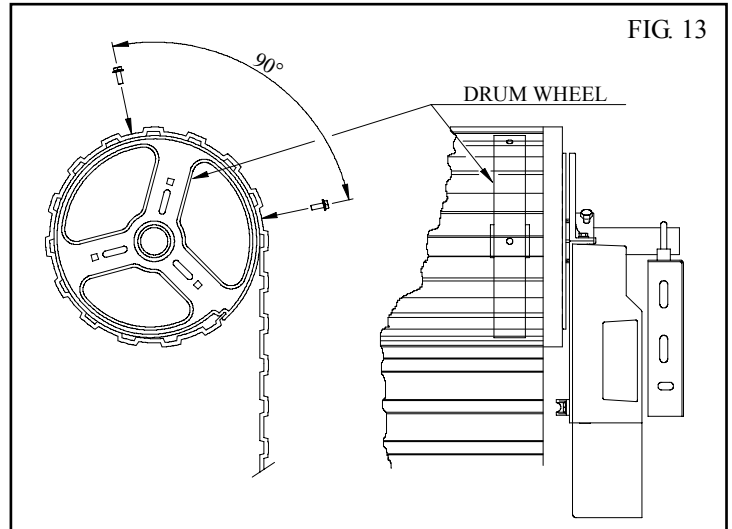

FIG. 13
1. With the door in the fully closed position, mark the curtain (Fig. 13) on both ends of the door.
2. Open door slightly to have access to the marked positions. Secure the curtain to drum wheel using self drilling screws (two on each end). The screws should be at least 90 degrees apart (Fig. 13).